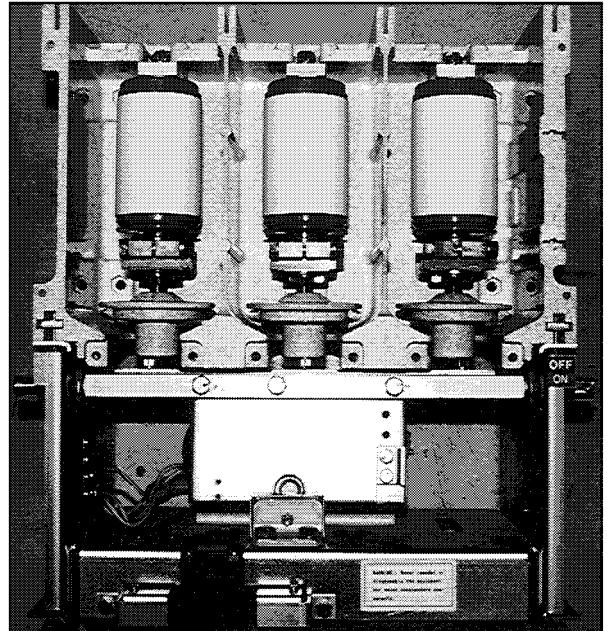

Fig. 10 Type CV-6KAU Vacuum Contactor
**B. Vacuum Contactor (Fig. 10)**